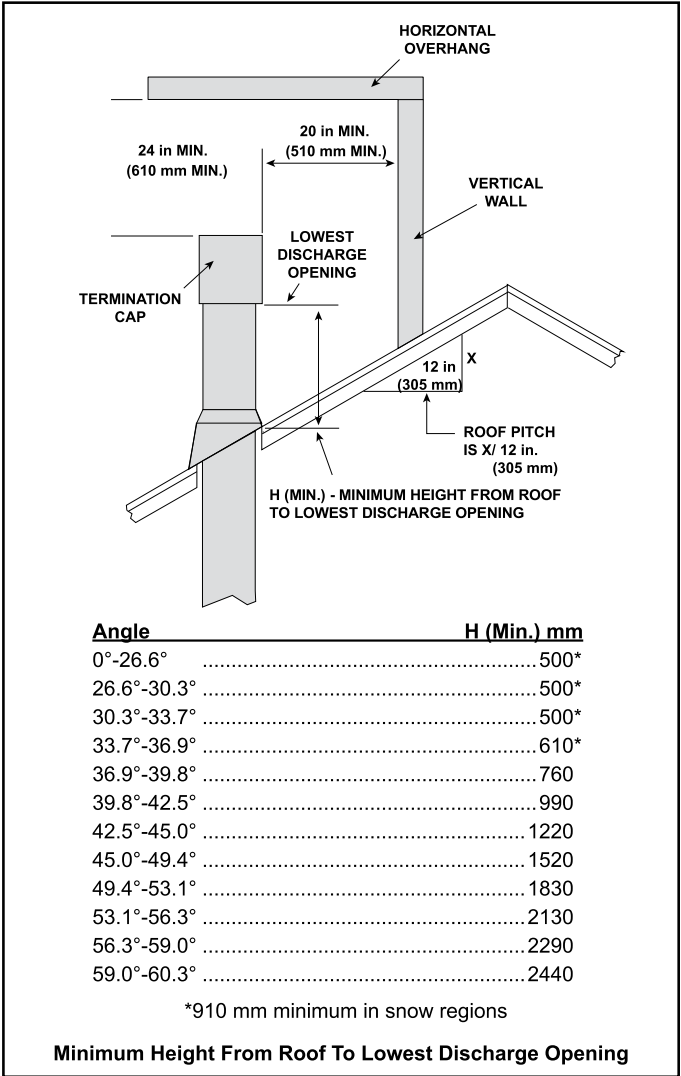

Figure 10.18
- **DO NOT** remove the heat shields attached to the wall shield firestop and the horizontal termination cap (shown in Figure 10.18).
- See minimum vent heights for various pitched roofs (Figure 10.18) to determine the length of pipe to extend through the roof.